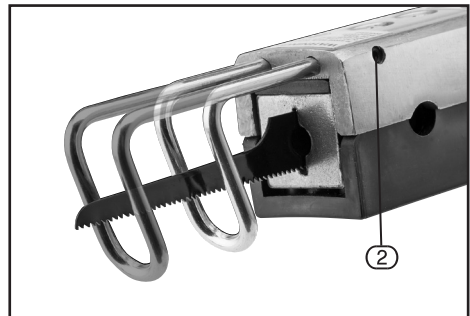

FIG.4
9.3 ADJUSTING THE WORK GUARD - FIG. 4